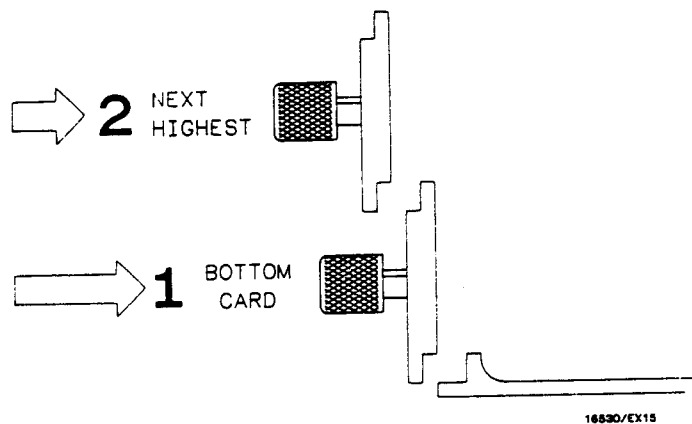

Figure A-3. Endplate Overlap
7. Repeat step 6 for all cards and filler panels in a **bottom to top** order. See figure A-3.